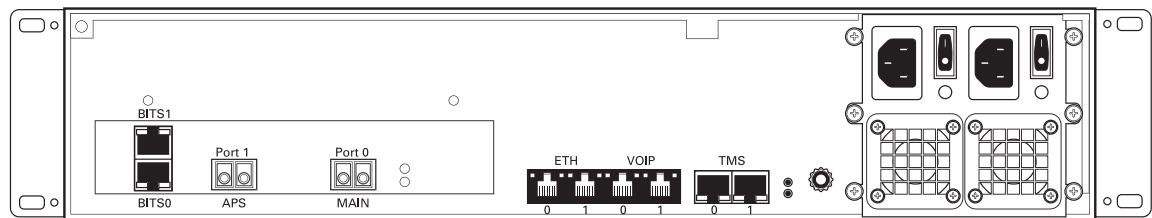

Figure 2.8 Optical Interface to the PSTN
A TMG3200-STM-1, with one main and one backup OC3 or STM1 port enables connection to OC3/STM1 lines. See figure 2.8 on page 23. Refer to table 2.3 on page 23 for a listing of optical interfaces. The default SFP module for OC3/STM1 connection is SMF, intermediate reach, (SFP-OC3-IR1) 1310 nm with LC type connectors.
1. Connect a fiber optic cable between the Port 0 (Main) port and OC3/STM1 line, as shown in figure 2.8 on page 23.